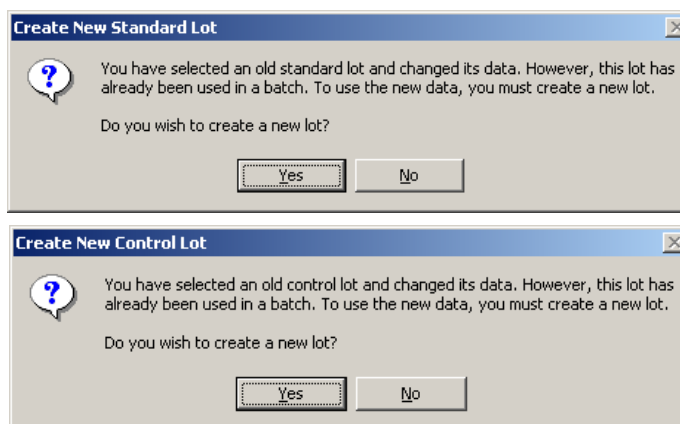

Figure 5-69 Updating Used Template Notification Dialog Boxes
4. Click **Save**. The system alerts you that this lot has been used to setup a batch and that you must create a new lot to continue. See Figure 5-69.